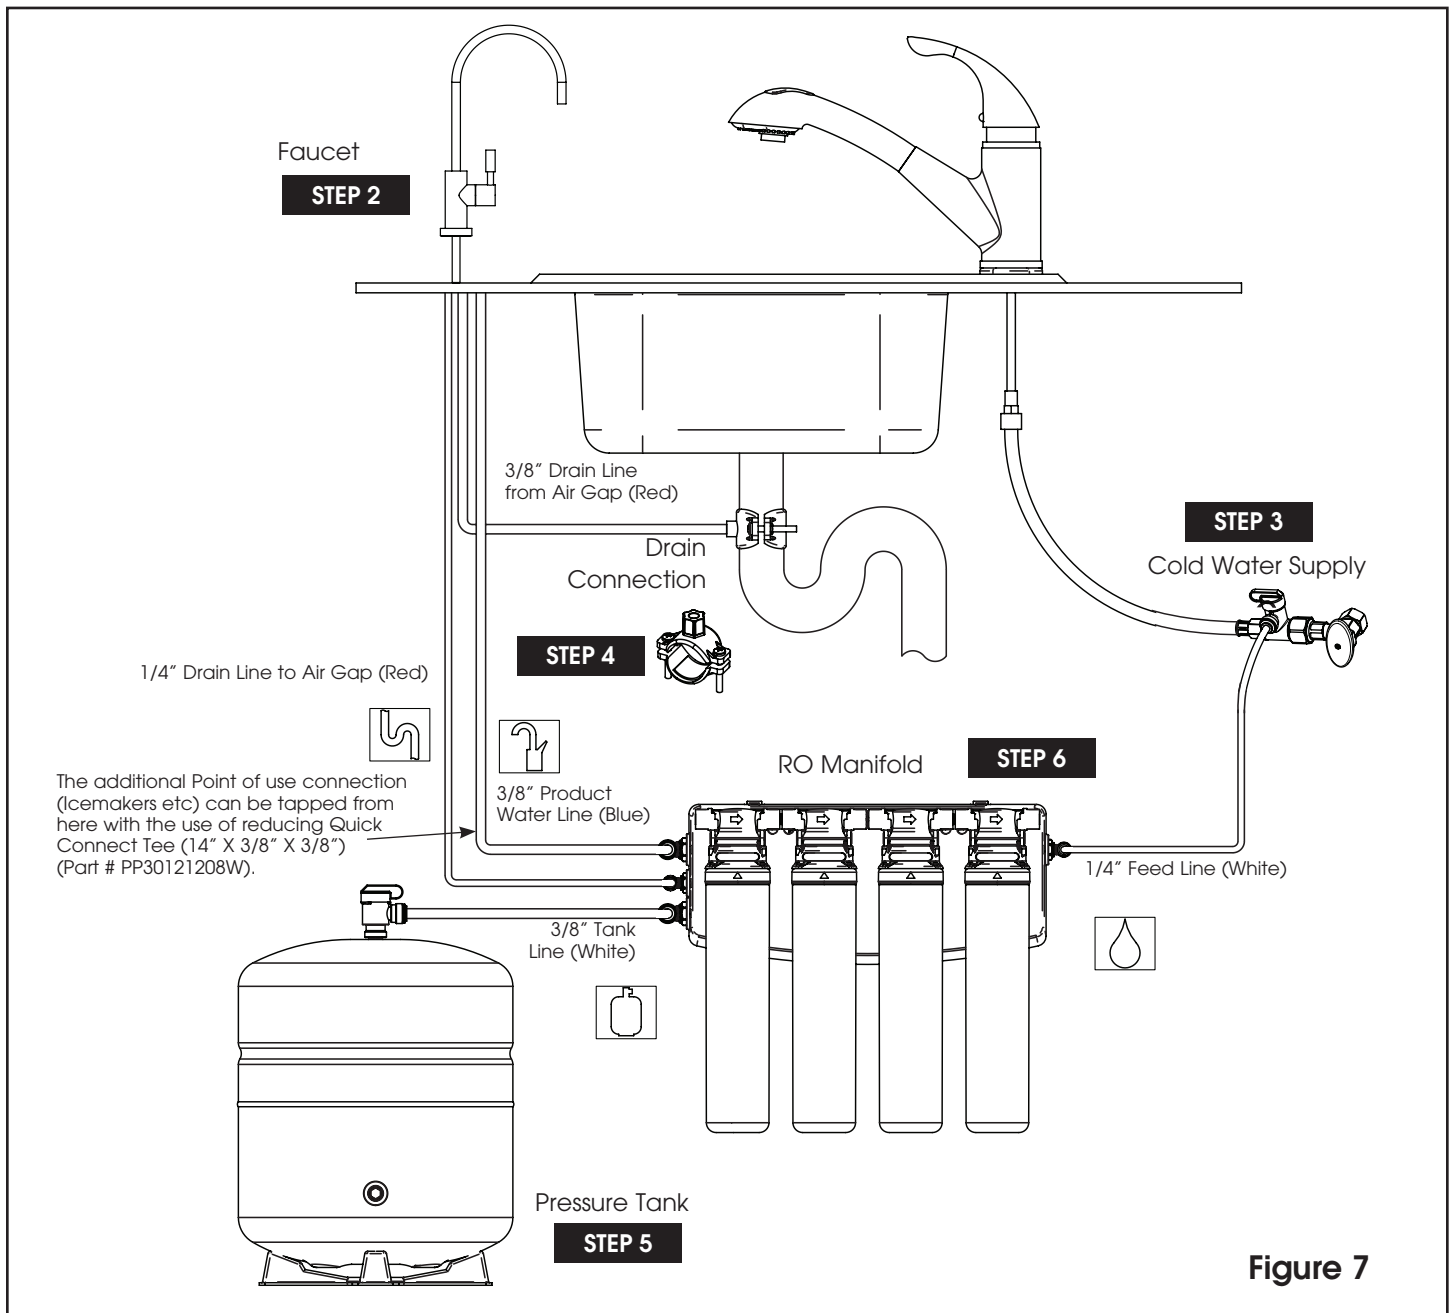

Figure 7
The exact placement of the components will vary by installation. Although shown beneath a sink, it may be installed in a basement, crawl space, or in an adjacent cabinet. Regardless of where the system is installed, the flow sequence described by (figure 7) must be observed.
1. Install the drain saddle valve on to the drain pipe. See figure 7 on page 9 for its location. Use 3/8" saddle for air gap faucets.